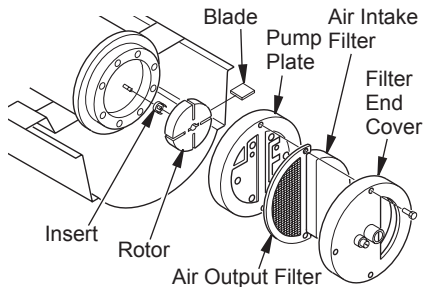

**Figure 27 - Air Hose to Barb Fitting**
4. Inspect fuel and air line hoses for cracks and/or holes. If fuel line hose is damaged, disconnect from nozzle adapter (see Figure 23 or 24) and from fuel filter (see *Fuel Filter*, page 11). If air line hose is damaged, disconnect from nozzle adapter (see Figure 23, page 12 or Figure 24, page 13) and from barb fitting on pump end cover (see Figure 27).
5. Install new air and/or fuel line. Attach one end of air line hose to barb fitting on pump end cover (see Figure 27) and the other end to nozzle adapter (see Figure 23, page 12 or Figure 24, page 13). Attach one end of fuel line hose to fuel filter (see *Fuel Filter*, page 11) and the other end to nozzle adapter (see Figure 23, page 12 or Figure 24, page 13).